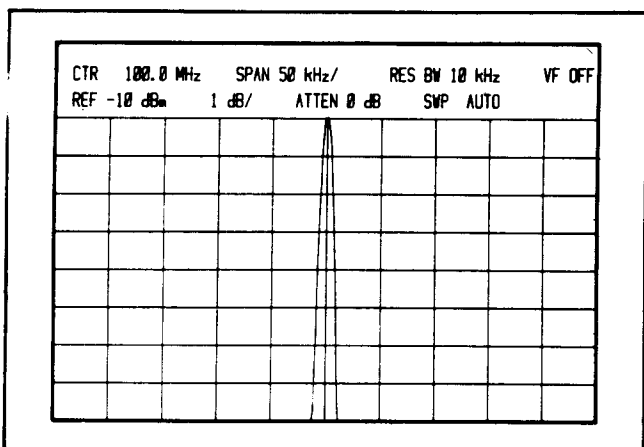

Figure 4. CAL OUTPUT Signal
4. Adjust REF LEVEL CAL  to position the peak of the signal on the REFERENCE LEVEL (top graticule line) of the CRT. Once the Front Panel Adjustment Procedure is completed, the CRT display should be similar to that shown in Figure 4.